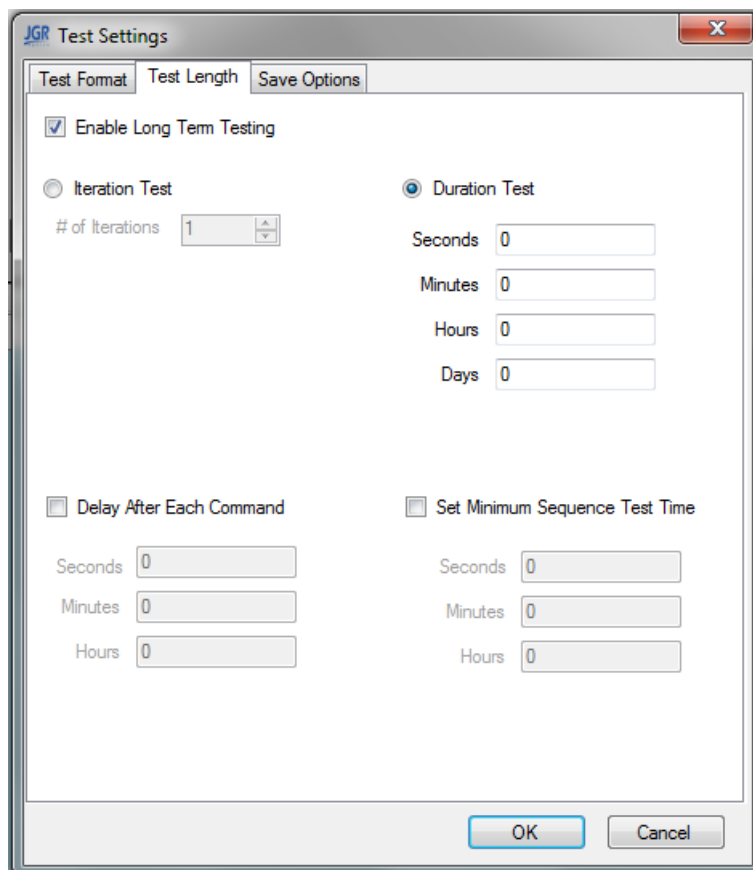

Figure 4.4: The Test Length settings window with long term testing enabled.
- Under the Test Length tab there is a check-box labeled Enable Long Term Testing (see Fig. 4.4).